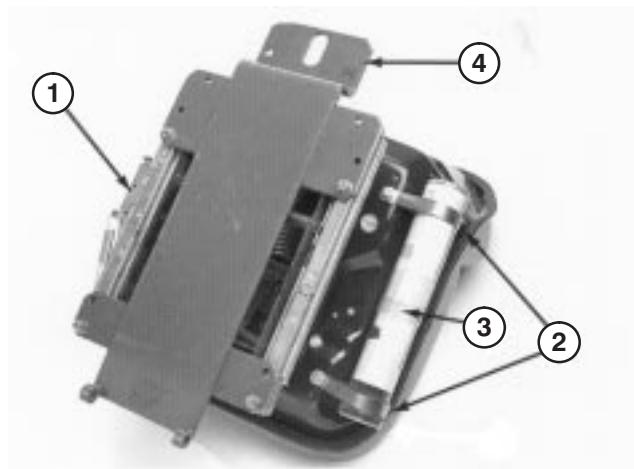

Figure 8
5. Mount seat suspension assembly to (4) capscrews on seat bottom and secure with (4) lockwashers, flatwashers and nuts (Fig. 8).
6. Loosely secure (2) R-clamps to right side of seat bottom with (2) capscrews and flatwashers supplied in kit (Fig. 8). Install manual tube into R-clamps and tighten capscrews (Fig. 8).
7. Mount seat support over four threaded studs at the bottom of seat suspension assembly and secure in place with lockwashers and nuts (Fig. 8).
**Note:** When mounting seat suspension, use forward set of mounting holes for a shorter operator, as shown in figure 8, or rear set for a taller operator.